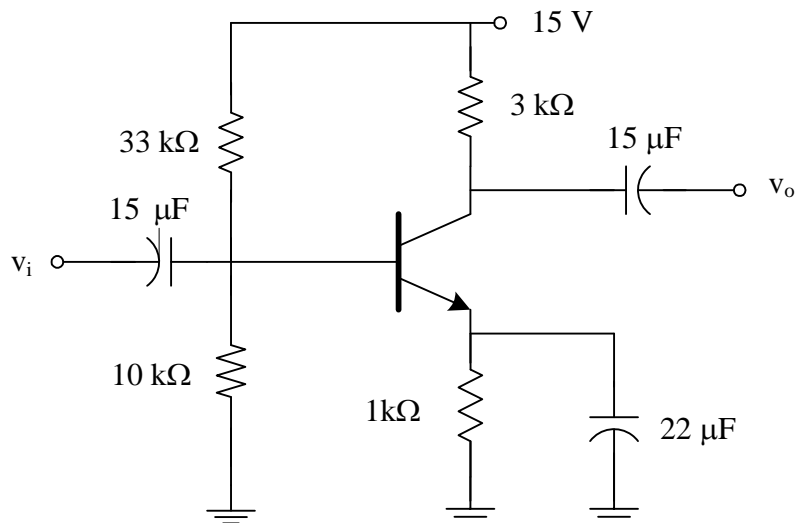
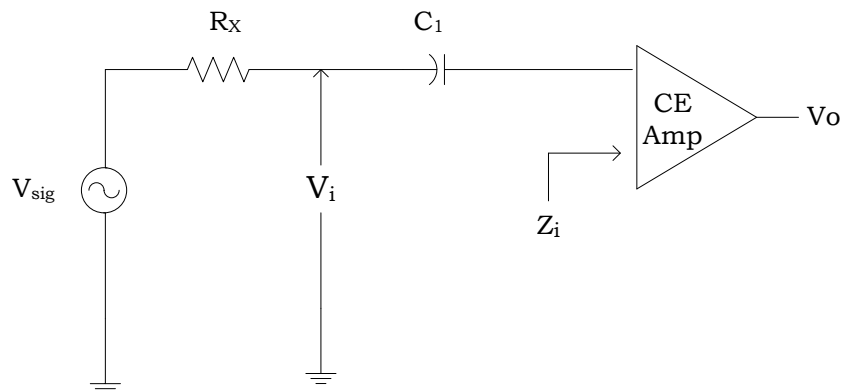

Figure 1
Figure 2
1. Make the connections as shown in Figure 1. This arrangement is called Common Emitter Amplifier (CE Amp) that can be represented by block diagram as shown in Figure 2.
1. Connect $R_X = 1\text{ k}\Omega$ to the CE Amplifier as shown in Figure 2.